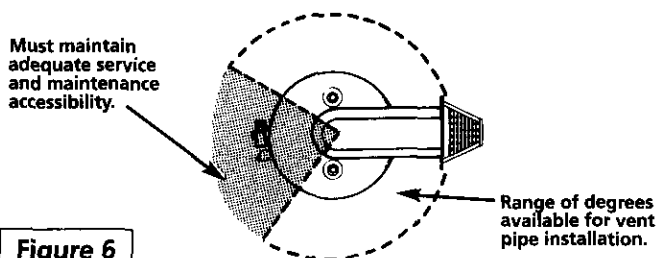

Figure 6
- The location selection must provide clearances for servicing and proper operation of the water heater. Figure 6, page 12.